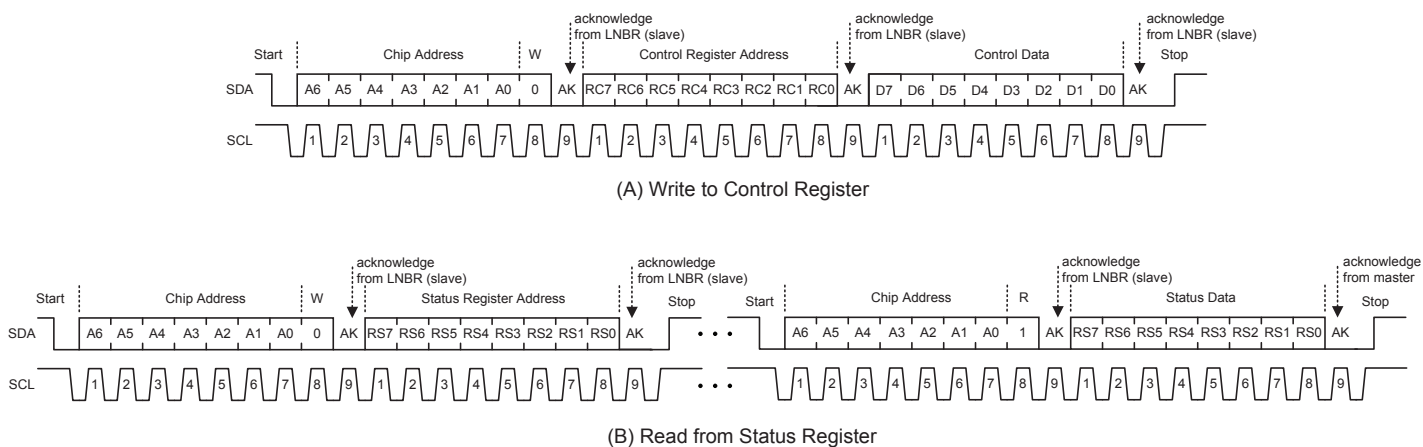

Figure 9. I2C™ Interface Read and Write Sequences. (A) for the I2C™ Write cycle and (B) for the I2C™ Read cycle
**Acknowledge (AK) Bit.** The Acknowledge (AK) bit indicates a good transmission and can be used two ways. First, if the slave has successfully received eight bits of either an address or control data, it will pull the SDA line low (AK=0) for the ninth SCL pulse to signal good transmission to the master. Second, if the master has successfully received eight bits of status data from the A8299, it will pull the SDA line low for the ninth SCL pulse to signal good transmission to the slave. The receiver (either the master or the slave) should set the AK bit high (AK=1 or NAK) for the ninth SCL pulse if eight bits of data are not received successfully.
**AK Bit During a Write Sequence.** When the master sends control data (writes) to the A8299 there are three instances where AK bits are toggled by the A8299. First, the A8299 uses the AK bit to indicate reception of a valid seven-bit chip address plus a read/write bit (R/W=0 for write). Second, the A8299 uses the AK bit to indicate reception of a valid eight-bit Control register address. Third, the A8299 uses the AK bit to indicate reception of eight bits of control data. This protocol is shown in figure 9(A).
**AK Bit During a Read Sequence.** When the master reads status data from the A8299 there are four instances where AK bits are sent—three sent by the A8299 and one sent by the master. First, the A8299 uses the AK bit to indicate reception of a valid seven-bit chip address plus a read/write bit (R/W=0 for write). Second, the A8299 uses the AK bit to indicate reception of a valid eight-bit status register address. Third, the A8299 uses the AK bit to indicate reception of a valid seven-bit chip address plus a read/write bit (R/W=1 for read). Finally, the master uses the AK bit to indicate receiving eight bits of status data from the A8299. This protocol is shown in figure 9(B).
**I2C™ Start and Stop Conditions.** The I2C™ Start condition is defined by a negative edge on the SDA line while SCL is high. Conversely, the Stop condition is defined by a positive edge on the SDA line while SCL is high. The Start and Stop conditions are shown in figure 9. It is possible for the Start or Stop condition to occur at any time during a data transfer. If either a Start or
**I2C™ Write Cycle Description.** Writing to the A8299 Control register requires transmission of a total of 27 bits—three 8-bit bytes of data plus an Acknowledge bit after each byte. Writing to the A8299 Control register is shown in figure 9(A). Writing to the A8299 Control register requires a chip address with R/W=0, a Control register address, and the control data, as follows:
ter is shown in figure 9(B).